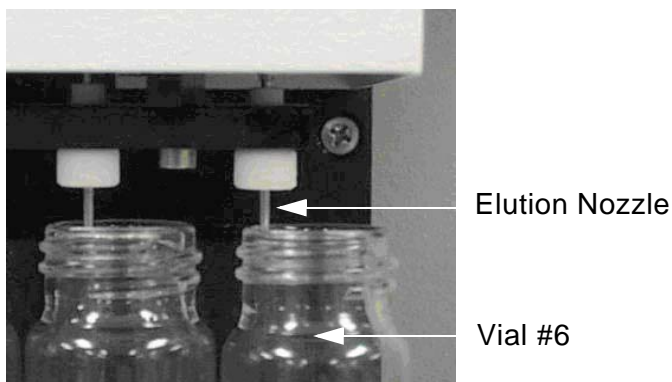

Figure 5-20. Example of Misaligned Elution Nozzle
4. Observe the positions of the elution nozzles as they enter the vials. Pay close attention to the vials in positions #1 and #6. For example, in Figure 5-20, notice that the elution nozzle shown is touching the side of vial # 6.